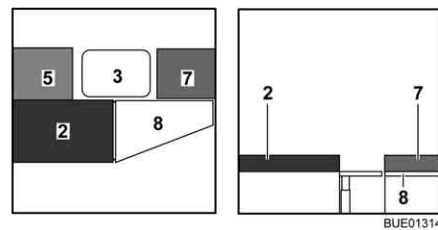

Fig. 140 During conversion
- Hook the bed widening (Fig. 140,8) into the recesses on the bench seats.